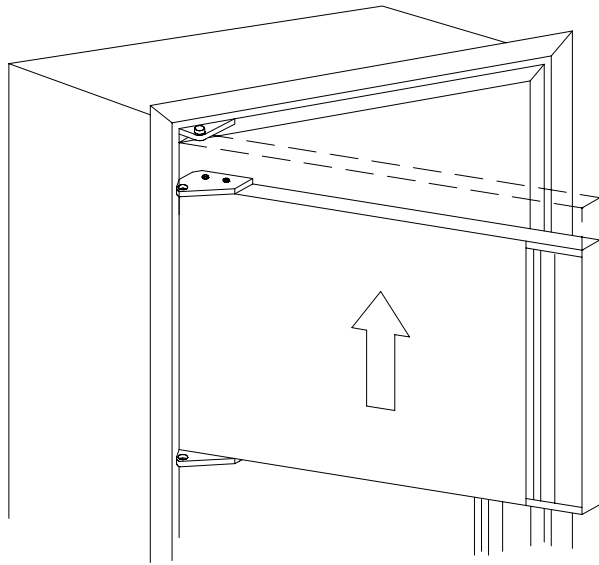

Figure 18
- 4 Remove the lower door by opening it slightly and pulling the top of the door away from the refrigerator. Allow enough room so the door can be lifted up and off of the bottom hinge pin shoulder (See Figure 18). Be sure to save the hinge plates along with the spacer used in the middle hinge bracket, for reassembly later. (See Figures 19A, 19B, and 19C)
10. Reposition the upper door in a similar manner as described in Step #9, except the top of the door must be engaged into the hinge pin shoulder before setting the door in place. (See Figure 18)
Figure 18 illustrates the location of the 400 Series refrigerator's operating controls. All operating controls are conveniently located below the door.